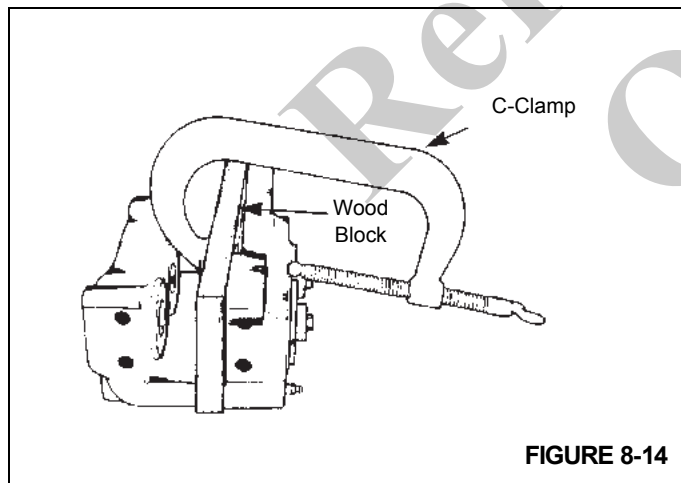

FIGURE 8-14
- a. Use a C-clamp to hold a 12.7 mm (0.5 in) block of wood against two pistons on the mounting side of the housing. Ensure the C-clamp is not in the area in front of the piston bore. Refer to Figure 8-14.